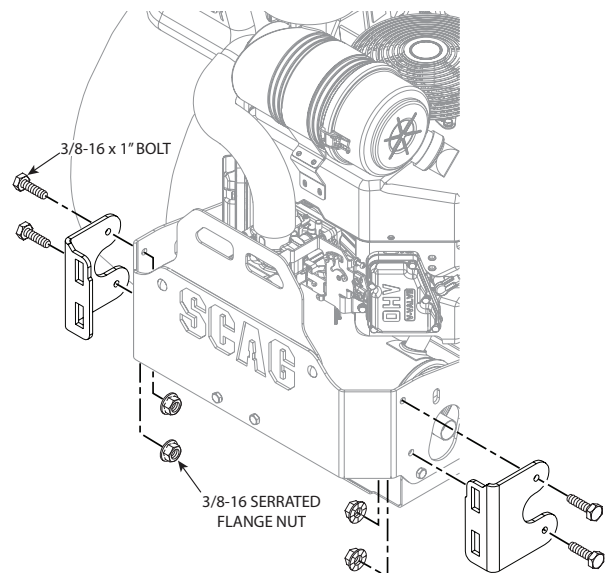

**Figure 2-9. Belt Routing**
17. Install the belt to the spindle pulley. When replacing the belt. See Figure 2-9.